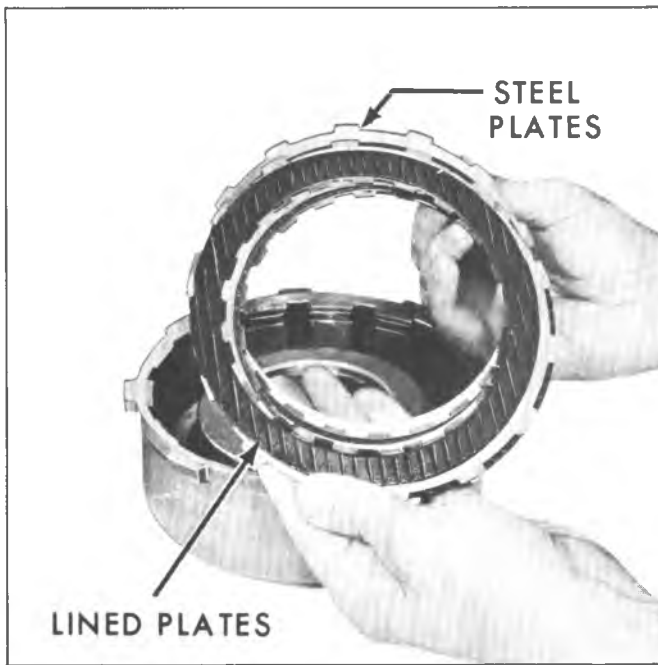

Fig. 71M--Removing Face Plates and Steel Separator Plates
6. Remove drive plates and steel driven plates (fig. 71M).